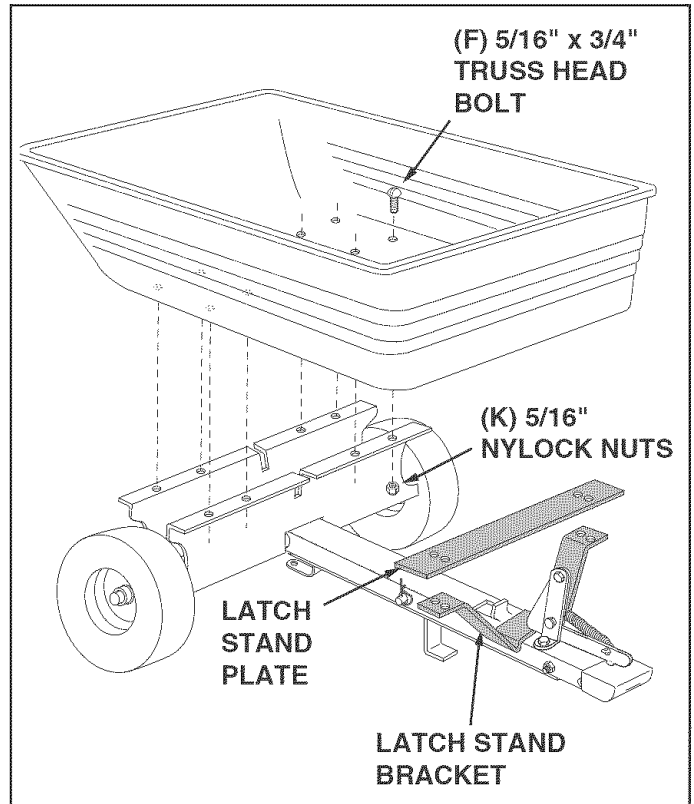
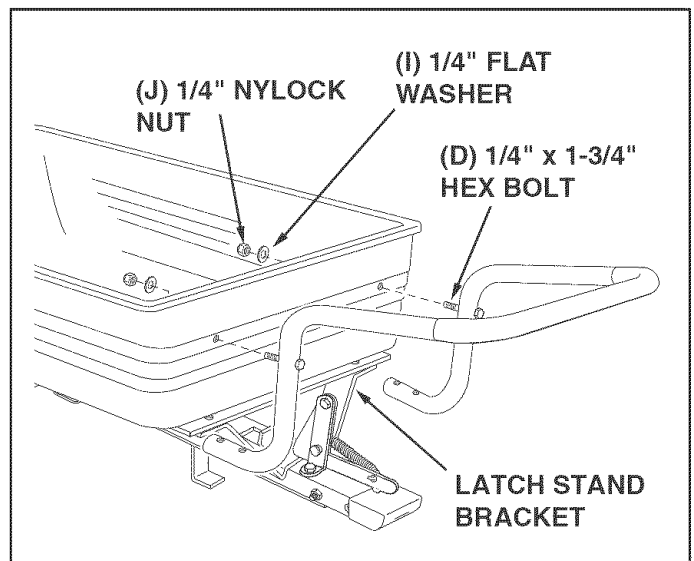

FIGURE 7
FIGURE 8
STEP 7: (SEE FIGURE 7)
- Turn the assembled tongue, wheel support and wheels over to the upright position. Place the latch stand bracket onto the tongue between the latch lock assembly and the raised tab. Place the poly tray onto the wheel support and latch stand bracket. Fasten the tray to the wheel support using eight 5/16" x 3/4" truss head bolts (F) and 5/16" nylock nuts (K). **Do not tighten yet.**
STEP 8: (SEE FIGURE 8)
- Insert two 1/4" x 1-3/4" hex bolts (D) through the handle tube as shown in figure 8. Holding the bolts in place in the handle, insert the bolts through the holes in the poly tray, allowing the legs of the handle to slip beneath the latch stand bracket. Secure the two bolts with two 1/4" flat washers (I) and 1/4" nylock nuts (J). **Do not tighten yet.**